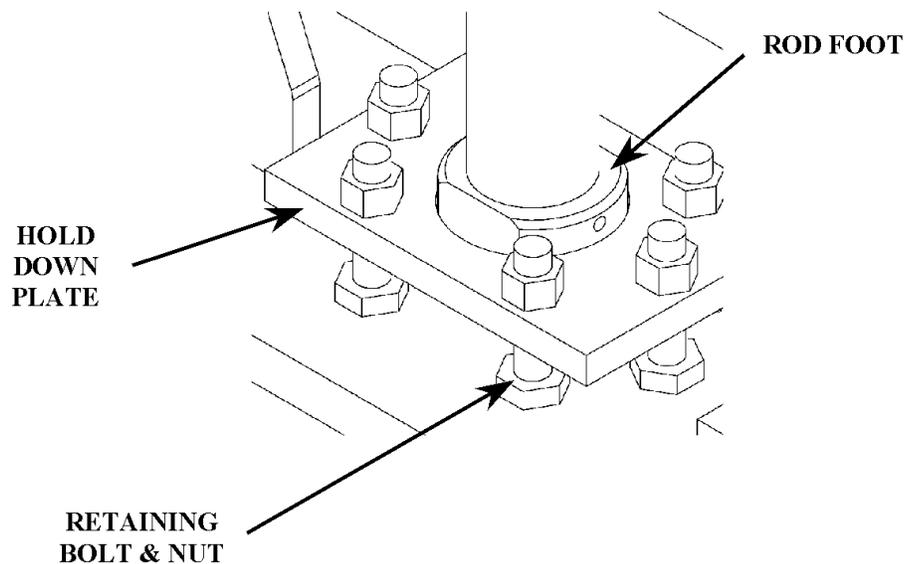

FIGURE 2 – retaining plate assembly
- The rod foot needs to be centered within the hole in the hold down plate. See figure 2. This should be true throughout the entire stroke of the cylinder and may move just a small amount.
4. The retaining nuts may appear to be loose. Do not over tighten the nuts on the retaining bolts shown in figure 2. There may appear to be a gap between the rod foot and the top jaw beam. This is natural. Only the cylinder shaft should be pushing against the top jaw, not the rod foot. The system is designed to allow the rod foot to adjust and move around to any misalignment with the top jaw.